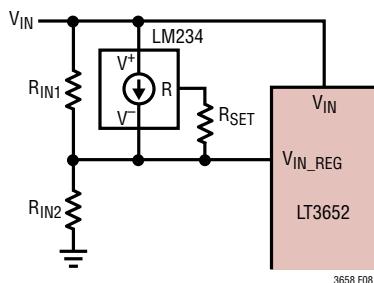

Figure 8. MPPT Temperature Compensation Network
In the circuit shown in figure 8,
As the temperature coefficient for V_{MP} is similar to that of V_{OC} , the specified temperature coefficient for V_{OC} (TC) of -78mV/°C and the specified peak power voltage ($V_{MP}(25^\circ\text{C})$) of 17.6V can be inserted into the equations to calculate the appropriate resistor values for the temperature compensation network in Figure 8. With R_{SET} equal to 1000Ω, then: